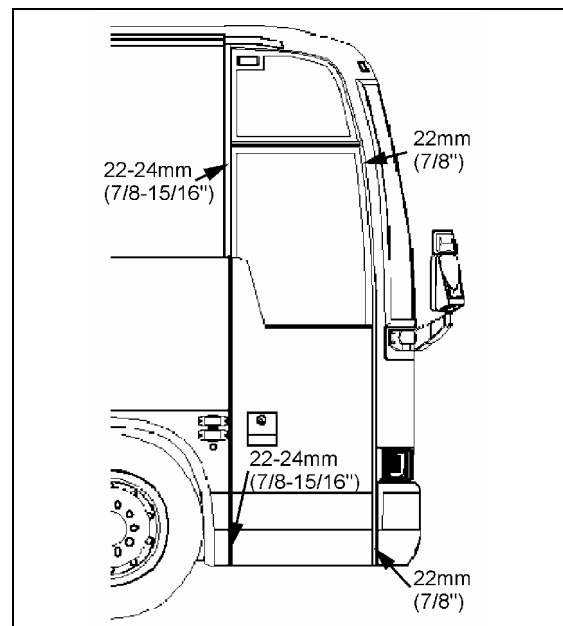

FIGURE 23: SEAL COMPRESSION ADJUSTMENT
the door frame and the door outside surface at the door four corners (refer to figure 23).
1. Close the door, from the outside of vehicle, insert a straight edge in the gap along the door outside perimeter. Measure the distance between the door frame and the door outside surface at the door four corners (refer to figure 23).